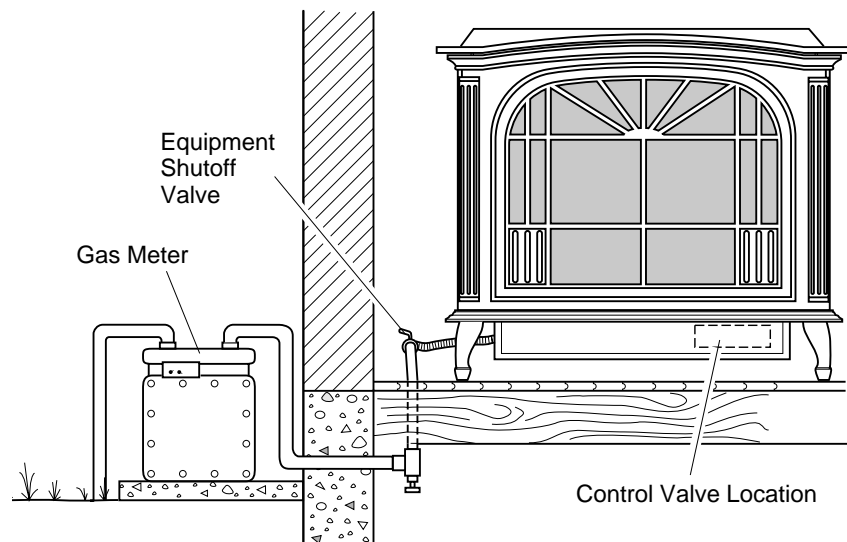

Figure 21 - Checking Gas Joints
3. Check all joints from gas meter to equipment shutoff valve (see Figure 21). Apply mixture of liquid soap and water to gas joints. Bubbles forming show a leak.
4. Check all joints from equipment shutoff valve to control valve (see Figure 21). Apply mixture of liquid soap and water to gas joints. Bubbles forming show a leak.